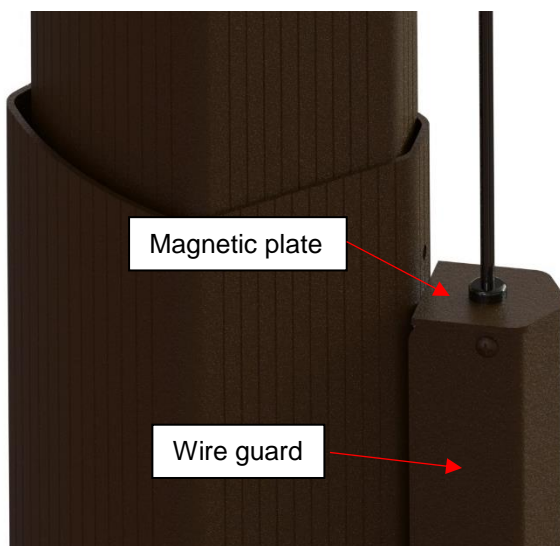

Figure 16
You might need to reassemble your wire guard harness if the magnetic plate (Figure 16) came off to let the wire out. The wire guard is located on the inside of the posts. It is on the opposite side of the light switch at the bottom of the post.
- 4) Put the plate back on top of the wire guard. There are two magnets that will hold the plate in place (Figure 16). The wire should have sufficient tension and stand straight. Please ensure the wire is not caught or twisted around the post.
- 5) Once the plate is installed, the assembly should look as shown in Figure 16. The wire should have sufficient tension and look straight. Please ensure the wire is not caught or twisted around the post.